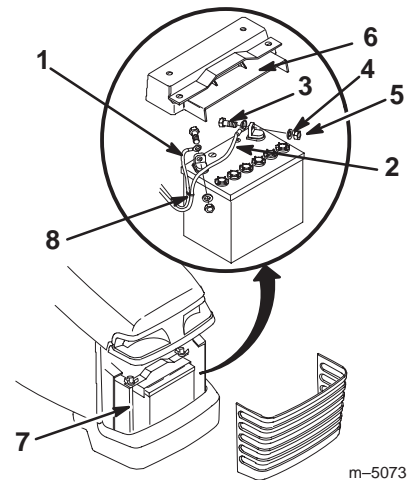

Figure 54
3. Remove the battery shield (Fig. 54).
4. Disconnect the negative (black) ground cable from the battery post (Fig. 54).
5. Disconnect the positive (red) cable from the battery post (Fig. 54).
1. Place the battery onto the chassis (Fig. 54).
2. Using the bolt, washer and locknut, connect the positive (red) cable to the positive (+) battery post (Fig. 54).
3. Using the bolt, washer and locknut, connect the negative (black) cable to the negative (–) battery post (Fig. 54).